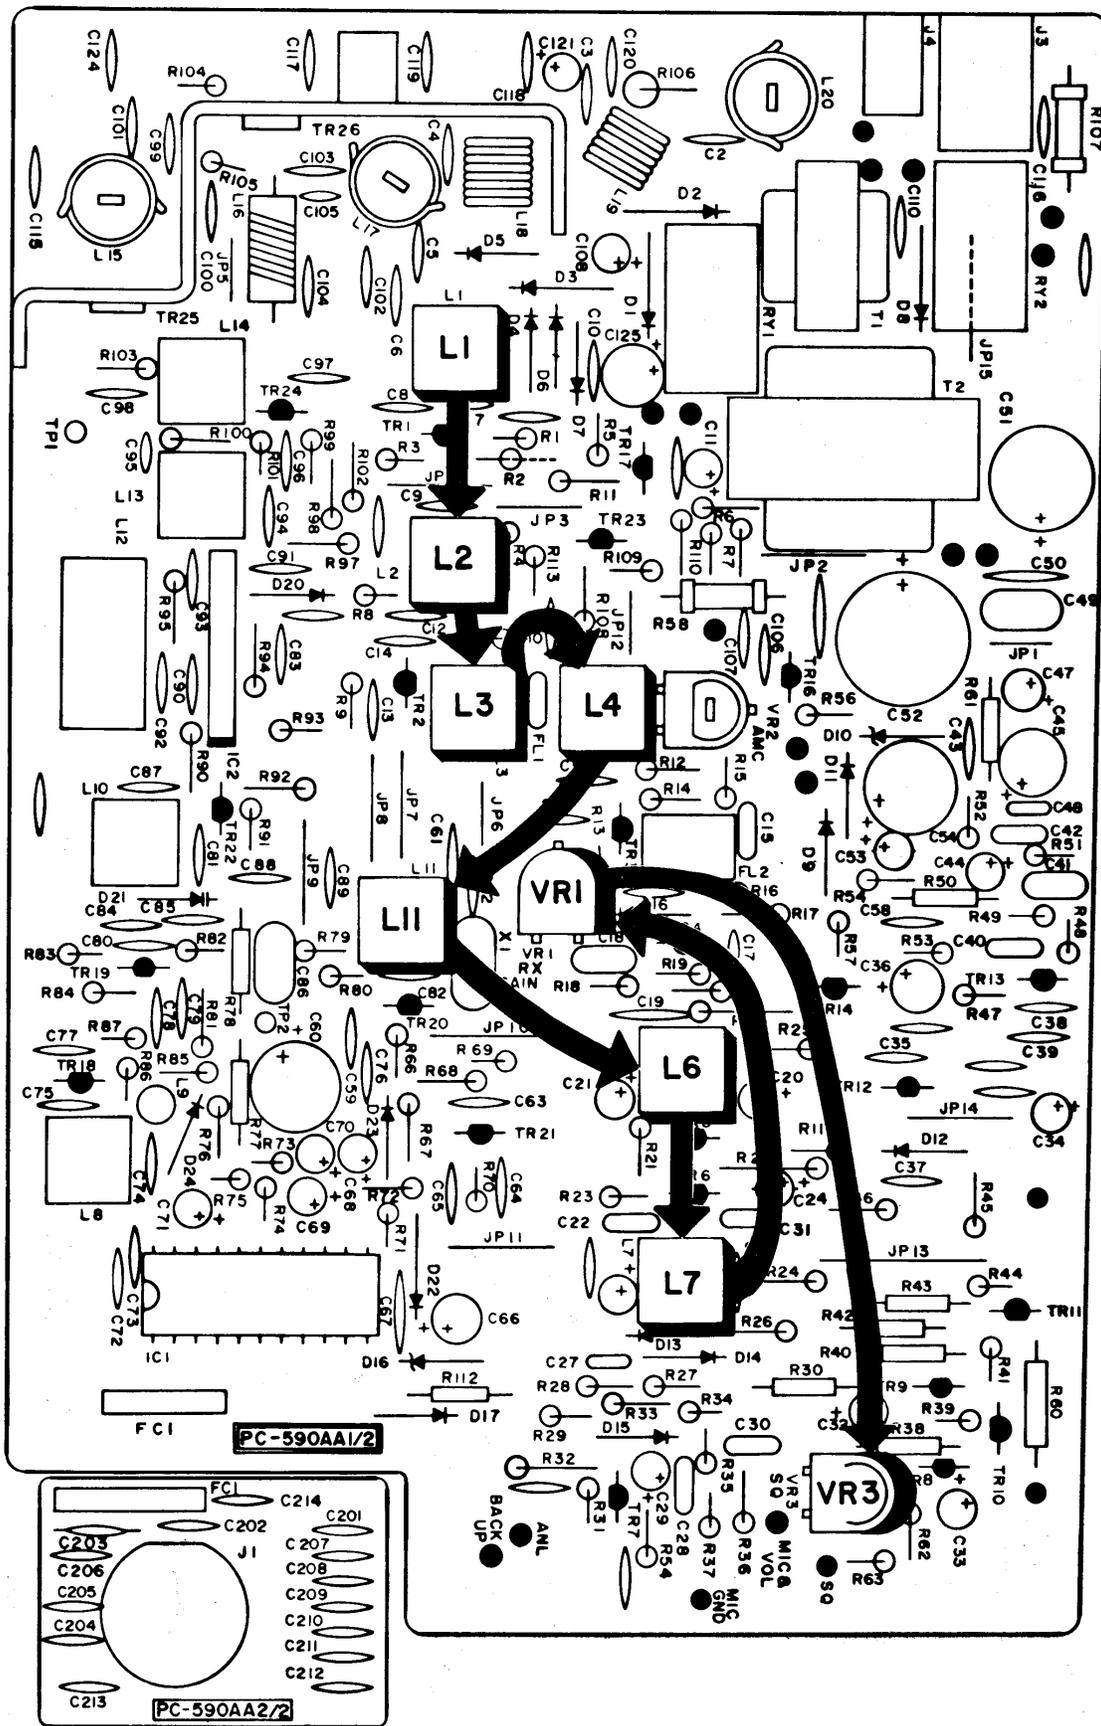

Figure 3 – Receiver Alignment Points
2. Adjust L1, L2, L3, L4, L11, L6 and L7, in this order for maximum reading on the AF V.T.V.M. Refer to Figure 3.
3. Reduce signal output from generator for 0.7  $\mu$ V input to the antenna. Adjust VR1, see Figure 3, for 1.4 volts RMS on the AF VTVM.
4. Turn SQUELCH control clockwise. Introduce a 1 mV signal from the generator into the antenna jack. Adjust VR3, see Figure 3, so that the AF signal just begins to appear on the oscilloscope.